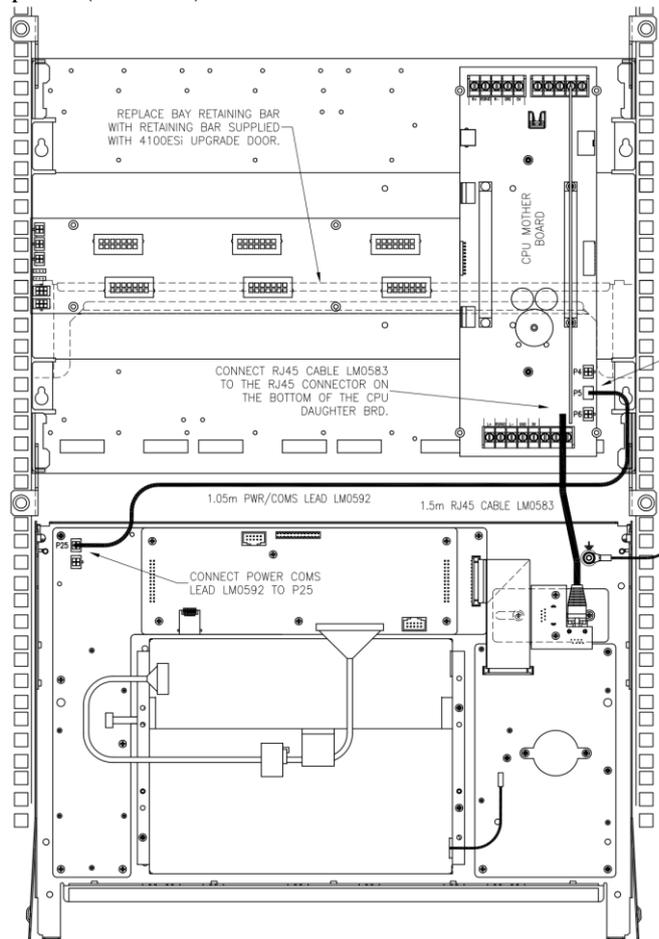

Figure 5 – Connecting the new InfoAlarm+ display door to the CPU bay
- Connect the InfoAlarm+ door to the bay, as shown in Figure 5: